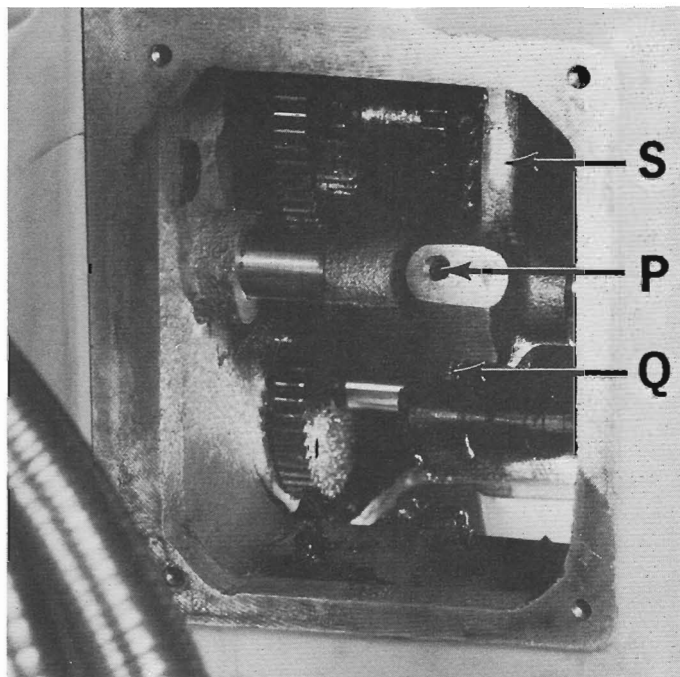
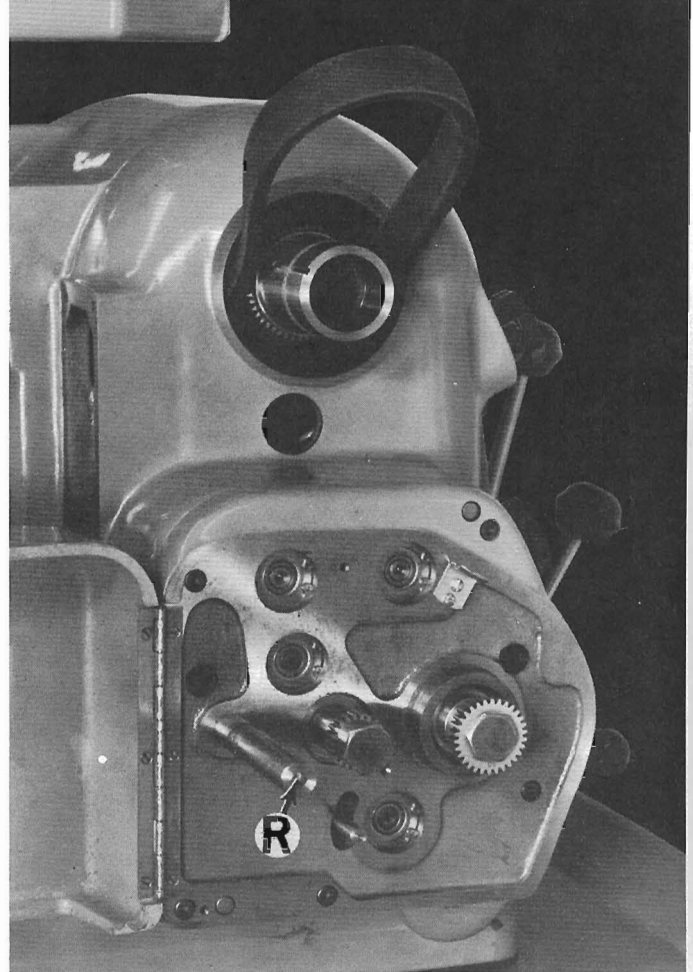

Figure 18 — Gearbox Shifter Fork
Figure 19 — Spindle Belt Removal
(H). Remove lock screws "P" and "Q", Figure 18.
(I). Unscrew shaft "R", Figure 19, with hex pin wrench. Pull shaft "R" out approximately 5".
(J). Use switch pull rod as hook to lift spindle belt out of pulley and out through opening in headstock, Figure 19. (Pull belt part way out of top opening in rear of gear box to aid in passing narrow width of belt past underside of pulley and over boss of gear box housing.)
14. Replace shaft "R", Figure 19, and screws "P" and "Q", Figure 18 (locate shifter yoke on shaft by lining up screw holes).
5. Remove lock screws "P" and "Q", Figure 18.
6. Unscrew shaft "R", Figure 19, with hex pin wrench. Remove shaft "R" and shifter fork "S", Figure 18.